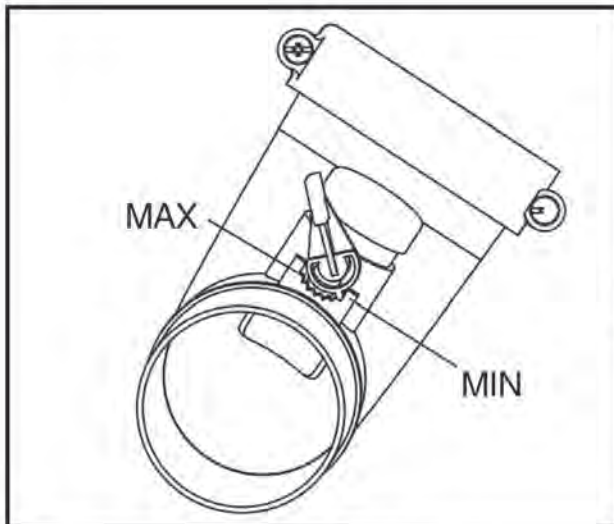

FIGURE 5
3. **Dust Flow**- To adjust dust flow move lever to the left. Move the lever to the right to reduce dust flow. See Figure 5.